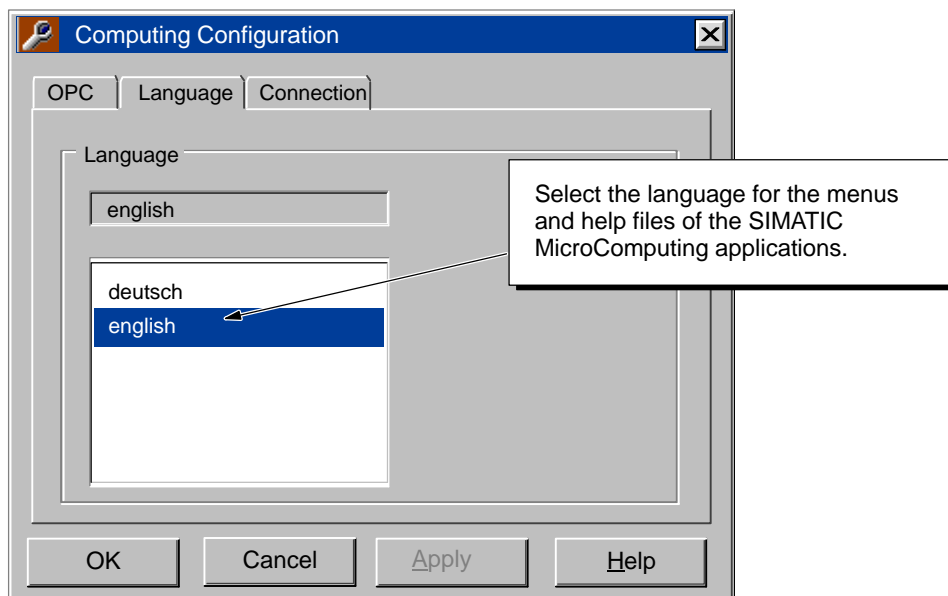

Figure F-1 Selecting the Language for the CPU Panel and Help Files
3. Select the language for the CPU panel (German or English). See Figure F-1.